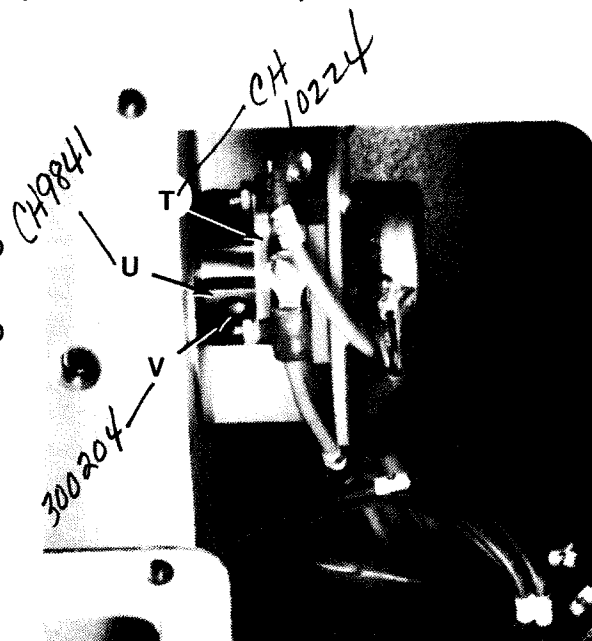

Figure 3.21 - Limit Switch Adjustment
Drive limit switch "T", Figure 3.21, is a safety feature to prevent the drive from over-running at the top or bottom of travel. When properly adjusted, the limit switch will permit a total of 1-½ to 3 turns beyond the minimum and maximum speed settings before the limit switch is engaged, cutting the power to the variable speed motor.
21. Loosen screw "V", Figure 3.21 .
25. Loosen screw "V", Figure 3.21 .